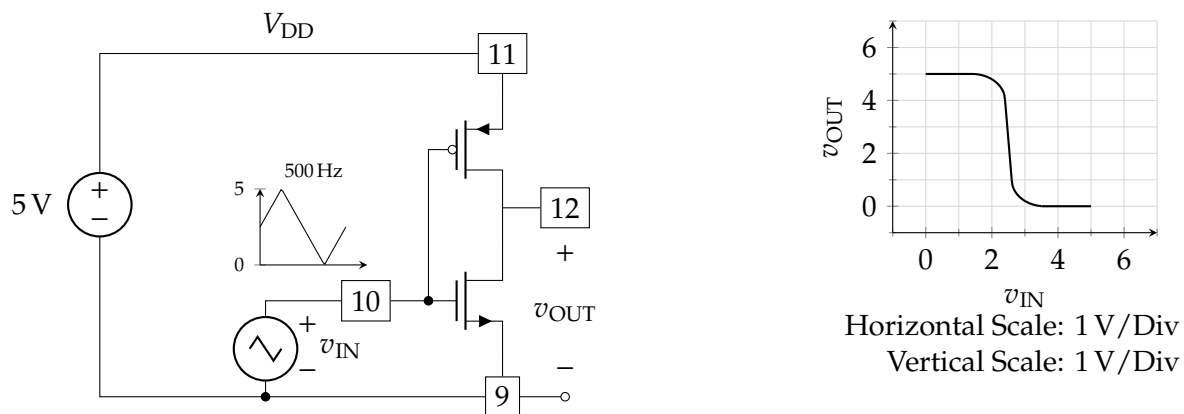

Figure 1.11: A test set to obtain typical transfer characteristics for an inverter.
The set circuit of figure 1.11 consists of two loops:
To obtain the solid characteristic curve shown in figure 1.11, V_{DD} is set to 5 V. Then, the input signal is carefully adjusted and applied. Use the XY mode of the oscilloscope to obtain the display.
2. *Add* the function generator and connect the oscilloscope to measure v_{IN} and v_{OUT} as shown in the circuit in figure 1.11.